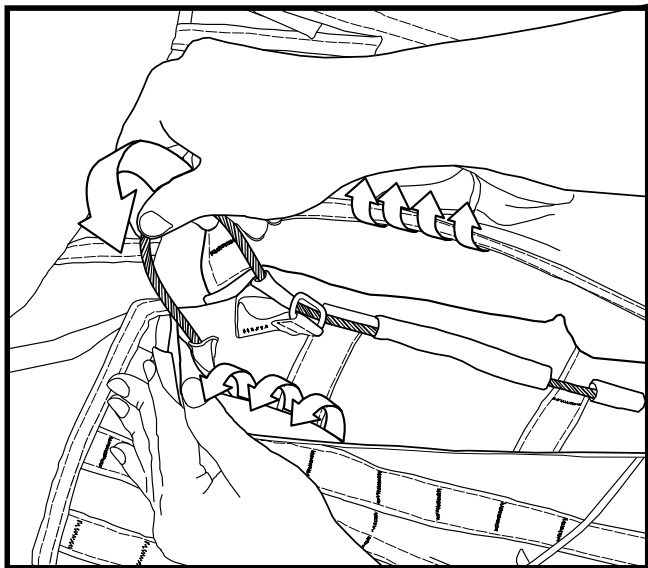

Figure 23. Routing Cable Release (Upper Panel).
- f. Route the short cable release through the portion of the right hand webbing loop that sticks out of the buckle (Figure 23).